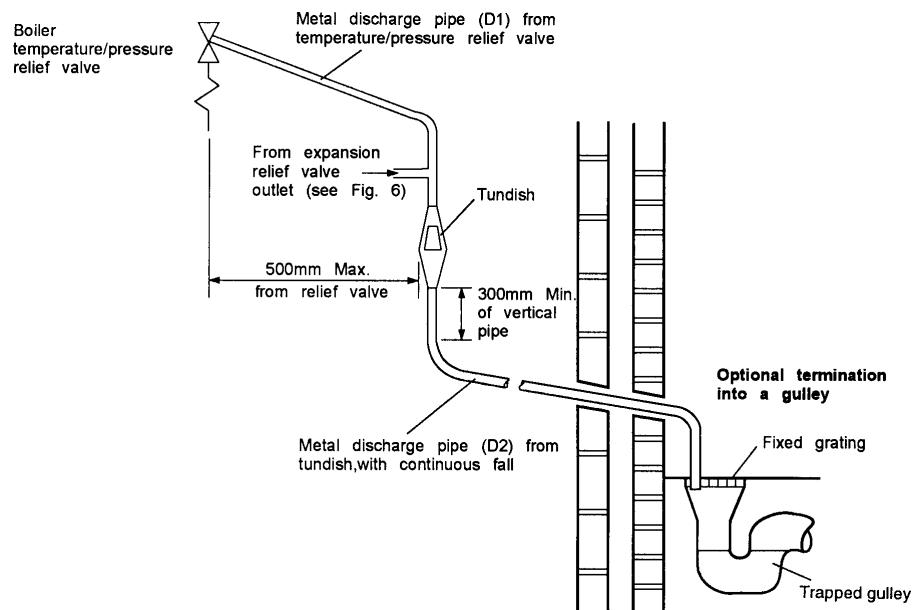

Fig. 7
The pipes discharging from both the expansion relief and temperature/pressure relief valves must be 15 mm diameter and must be connected to the tundish supplied. Both pipes should be connected together before joining to the tundish in 15 mm pipe. The discharge pipe from the tundish must be at least 22 mm pipe. Refer to the following table and Fig. 7.
- 4 Connect the temperature/pressure relief valve and expansion relief valve discharge pipes to the tundish as described in section 2.13 and shown in Fig. 7.